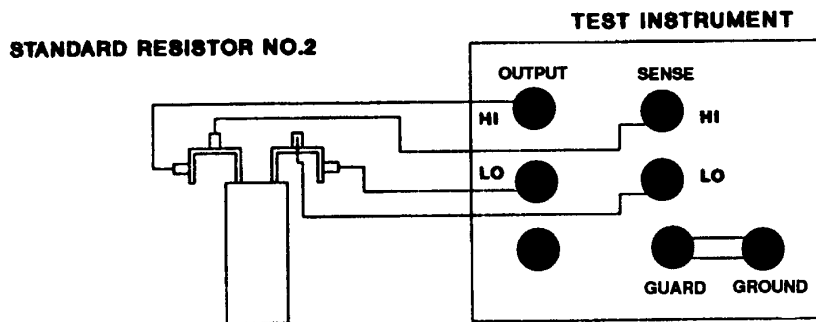

Figure 4. 1Ω internal calibration.
- l.** Connect equipment as shown in figure 4.